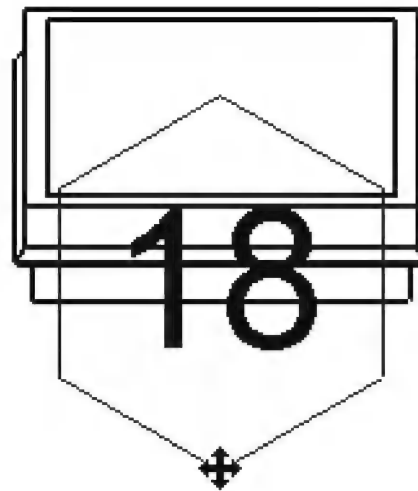

Figure 6-2.5 Enlarged skylight detail
13. You should see a symbol appear near the bottom of the tag; drag on this symbol to move the tag down (Figure 6-2.5).